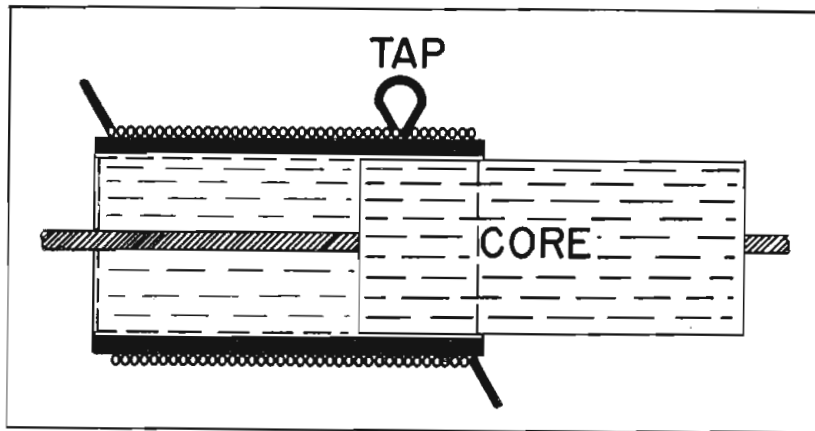

Fig. 6—Cross-section of an oscillator coil tapped for feedback. Moving core away from the center of the winding reduces feedback
Twelve sources of program channels are available, six from local studios and six from remote or network programs. These signals appear on the patch panels associated with the On-The-Air rack and the Remote Facilities rack shown in Fig. 6. The studio outputs are labeled A through F on the OAR patch panel and the remote program sources are labeled 1 through 6 on the RFR patch panel. For convenience the studio signals will be traced first.
Fig. 6—Functional diagram of picture patch panels. Key: REM, remote signal; OA, on-the-air signal; PV, preview signal; REH, rehearsal signal; LA, line amplifier; DA, distribution amplifier; BA, bridging amplifier
A tapped coil is not desirable in a permeability-tuned system where it is the variable element, however, for two reasons. Firstly, the percentage of feedback would vary in accord with the core position, as illustrated in Fig. 6; and (2), the tuning curve for the coil would have a discontinuity or bump centering at the tap.